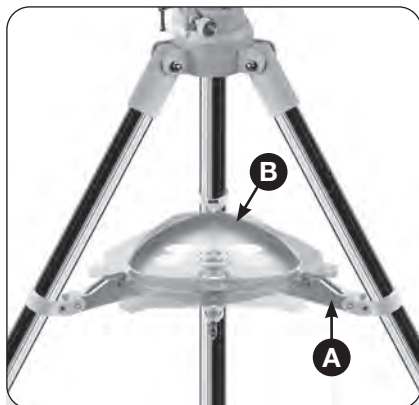

Fig. 2: The tripod with accessory tray
2. Assembly - Tripod: The tripod legs are pre-assembled and already connected to the tripod head and the tripod spider (A, Fig 2). Remove the tripod from its packaging and place it vertically with the tripod feet facing down. Now take two of the tripod legs and carefully pull these tripod legs apart to the fully open position. The entire weight of the tripod rests on one leg. Then set up the tripod so that it stands straight. Now pull out each tripod leg individually to the desired length (Fig. 3) and tighten one clamping screw each (a total of 3 pcs.) by hand. Do not overtighten the screws! The clamping screws are used to lock the inner tripod leg segments at the desired height.
3. Assembly - Installing the accessory tray: The accessory tray (B, Fig. 2) is placed in the centre of the tripod spider with the flat side facing downwards and installed by turning it clockwise through 60°. The three lugs of the accessory tray must align with the retaining brackets of the tripod spider and lock into place.